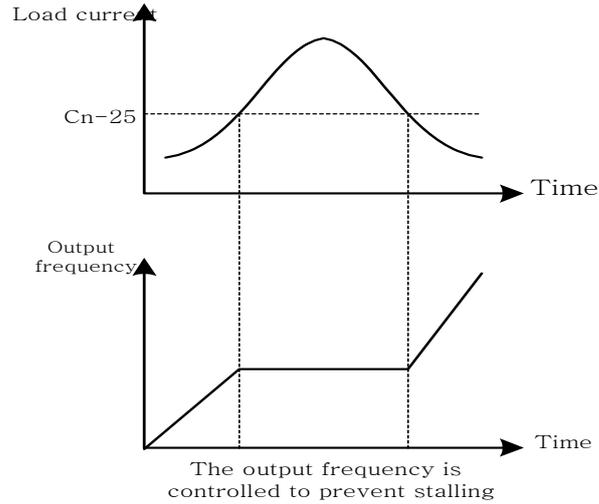

Fig 24 Acceleration stall prevention function
- 2) When the fault reset input is received after the protection operation has been activated and the fault confirmed. (e.g., by pressing  or enable Fault reset terminal ③)
(19) Stall Prevention level During Acceleration (Cn-25)
(20) Stall Prevention level During Running (Cn-26)
- Stall Prevention During Acceleration : See Fig 24. Stop acceleration if Cn-25 setting is exceeded. Accelerate again when the current recovers.